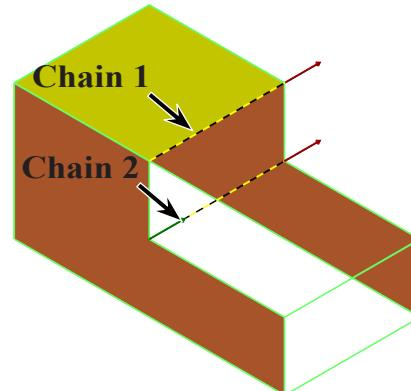

Fig. 28
Step 6. Click Single  (S) in the Chaining dialog box to start each new chain.
Step 7. Use **Chain 1** and **Chain 2** for next surface, Fig. 28.